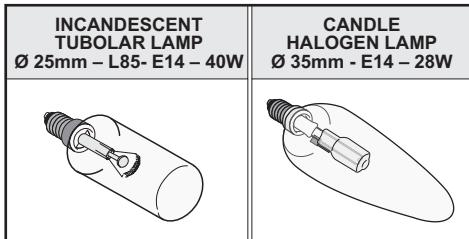

Fig.6B
- **Replacing the halogen/incandescent lamps (Fig.6B):**